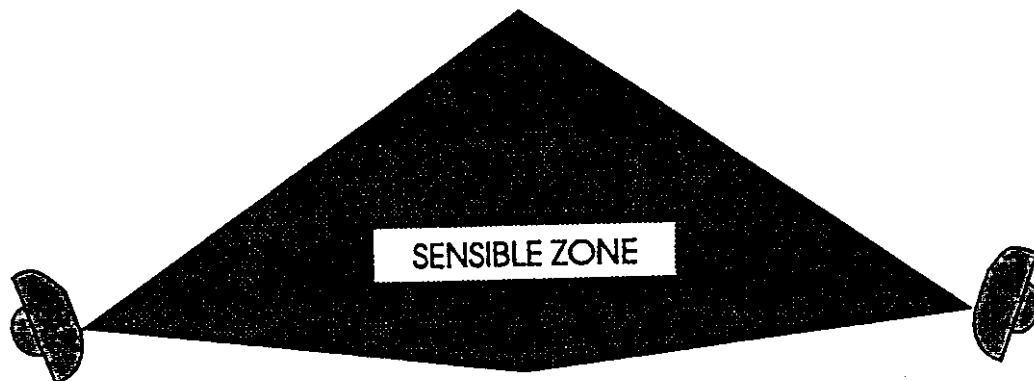

FIG. 5 - Sensible zone distorsion for bad alignement
- **An imperfect alignment between transmitter and receiver provokes, a distortion of the shape of the protective field which is set up, as well as an obvious reduction of the signal received.** This fact becomes clearly apparent when considering that the protection field is determined, in the first approximation, by the combination of the principal radiation lobes of the two antennae, which, if perfectly aligned, will establish a regular and symmetrical protection field in the two halves of the section, if badly aligned they will cause asymmetry and a more probable interception of obstacles (even though apparently outside the sensitive field). (FIG. 5)